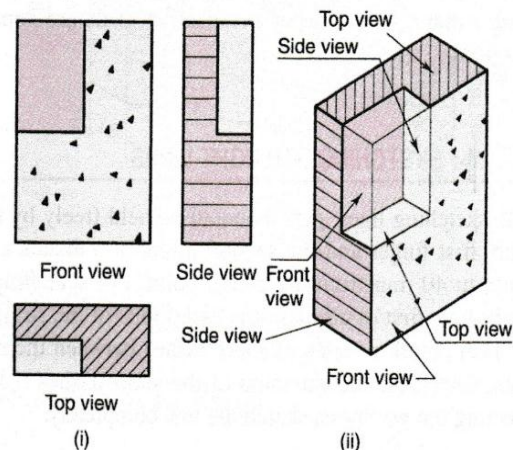

Fig. 5.58 Sketching an isometric view
4. The required isometric sketches is shown in Fig. 5.58.